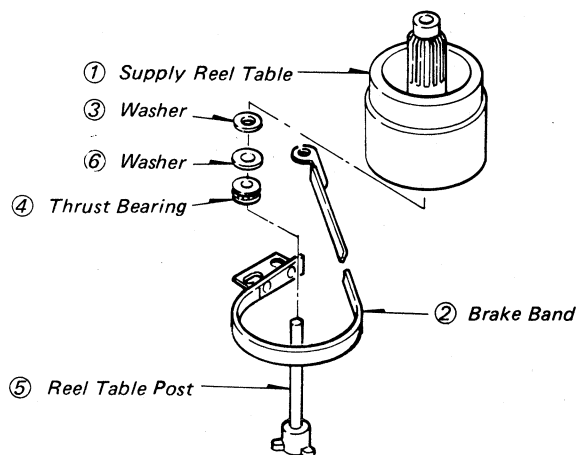

Fig. 5-29 Supply Reel Table Assembly.
1. Add or subtract the height adjustment washers (3) and (6) (refer to Fig. 5-29 and 5-30).
5-2-11 Replacing the Supply Reel Table (see Fig. 5-29)